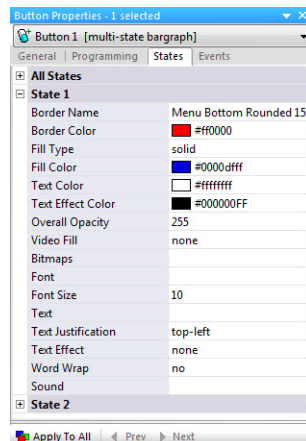

FIG. 155 Button Properties
2. In *Button States*, select *MXA-MPL* as the video fill (FIG. 155).